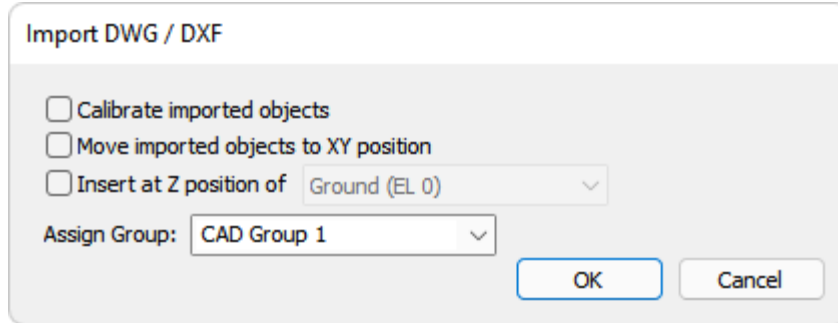

FIGURE 3-1
- Click on the **Open** button, this will open the *Import DWG/DXF* window shown in **FIGURE 3-1**.